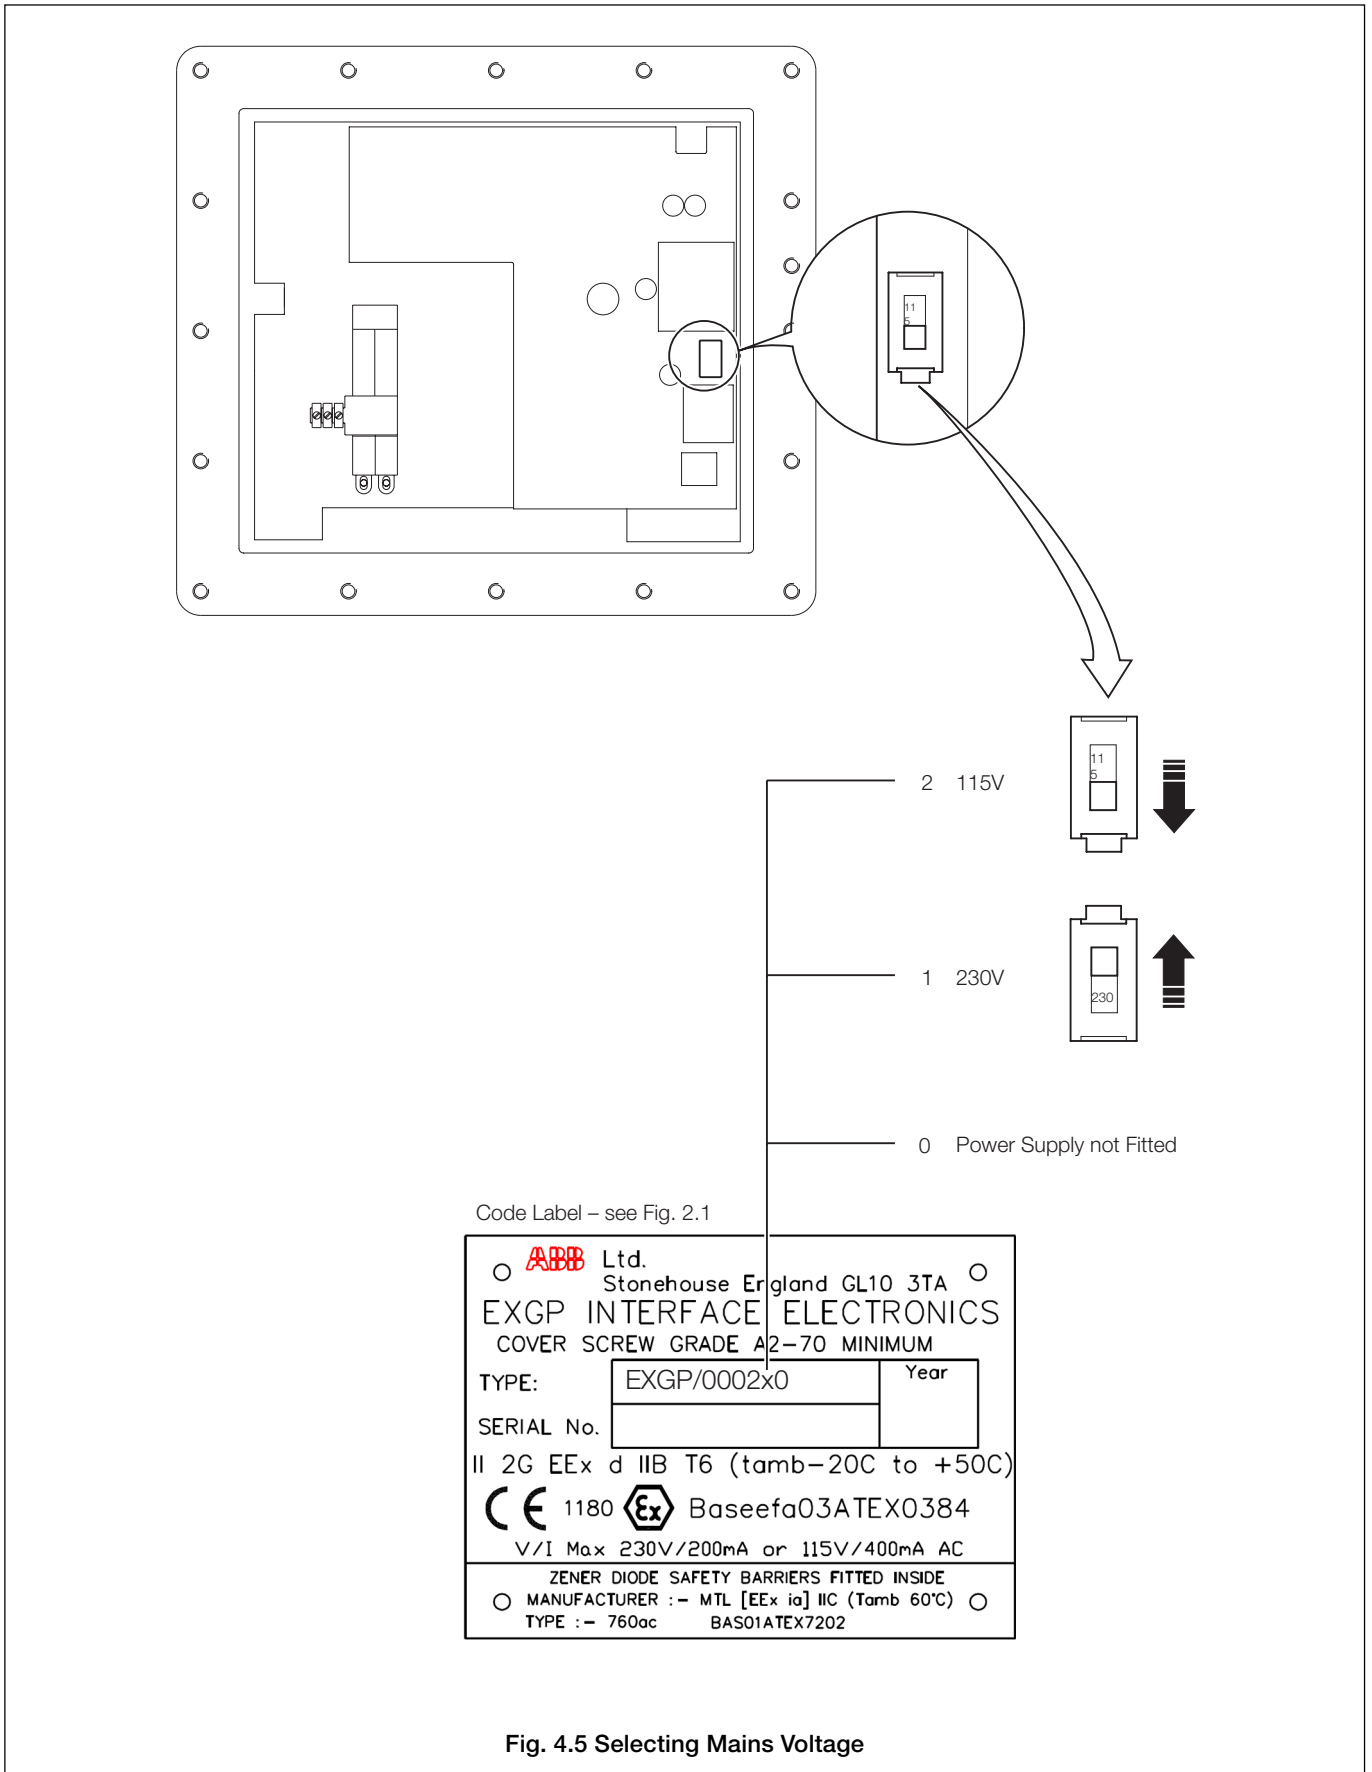

Fig. 4.5 Selecting Mains Voltage
4.6 Selecting Mains Voltage – Fig. 4.5